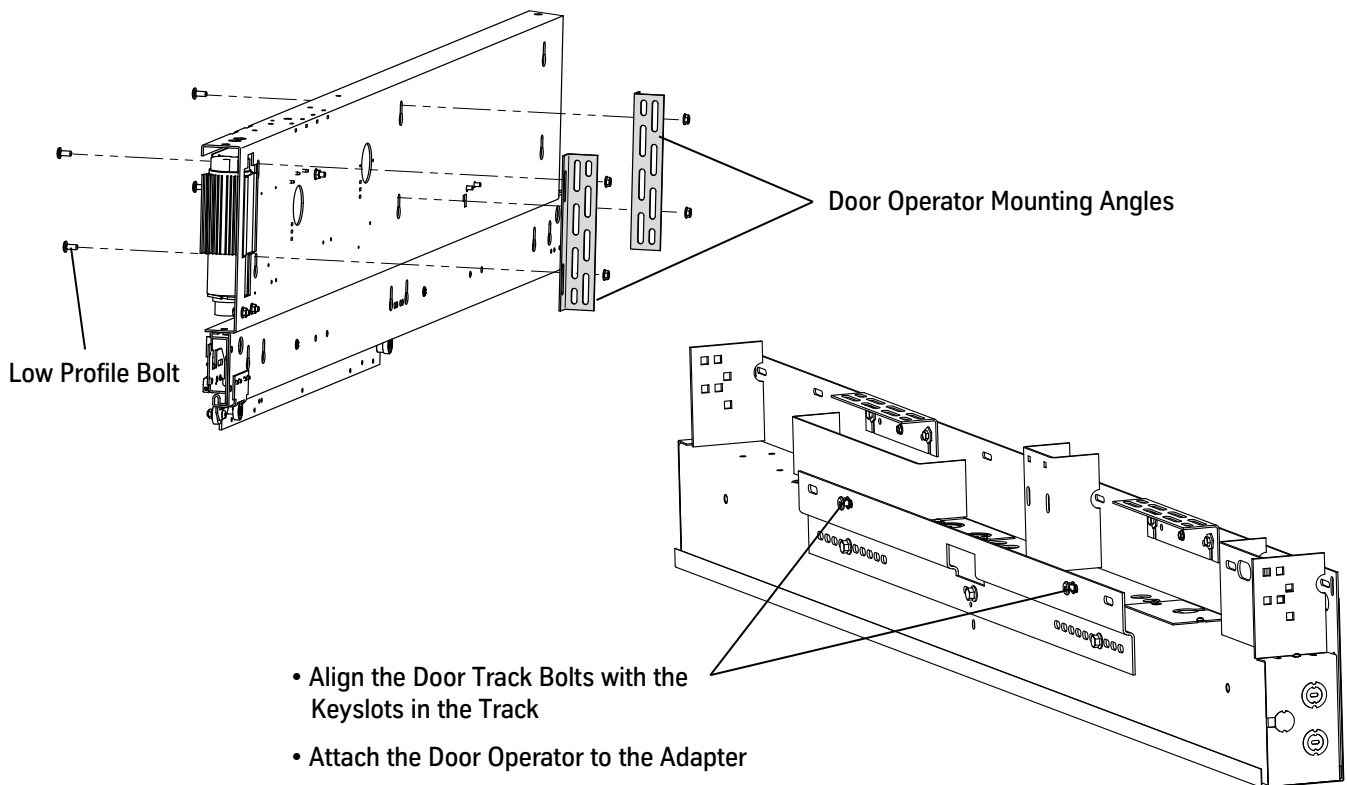
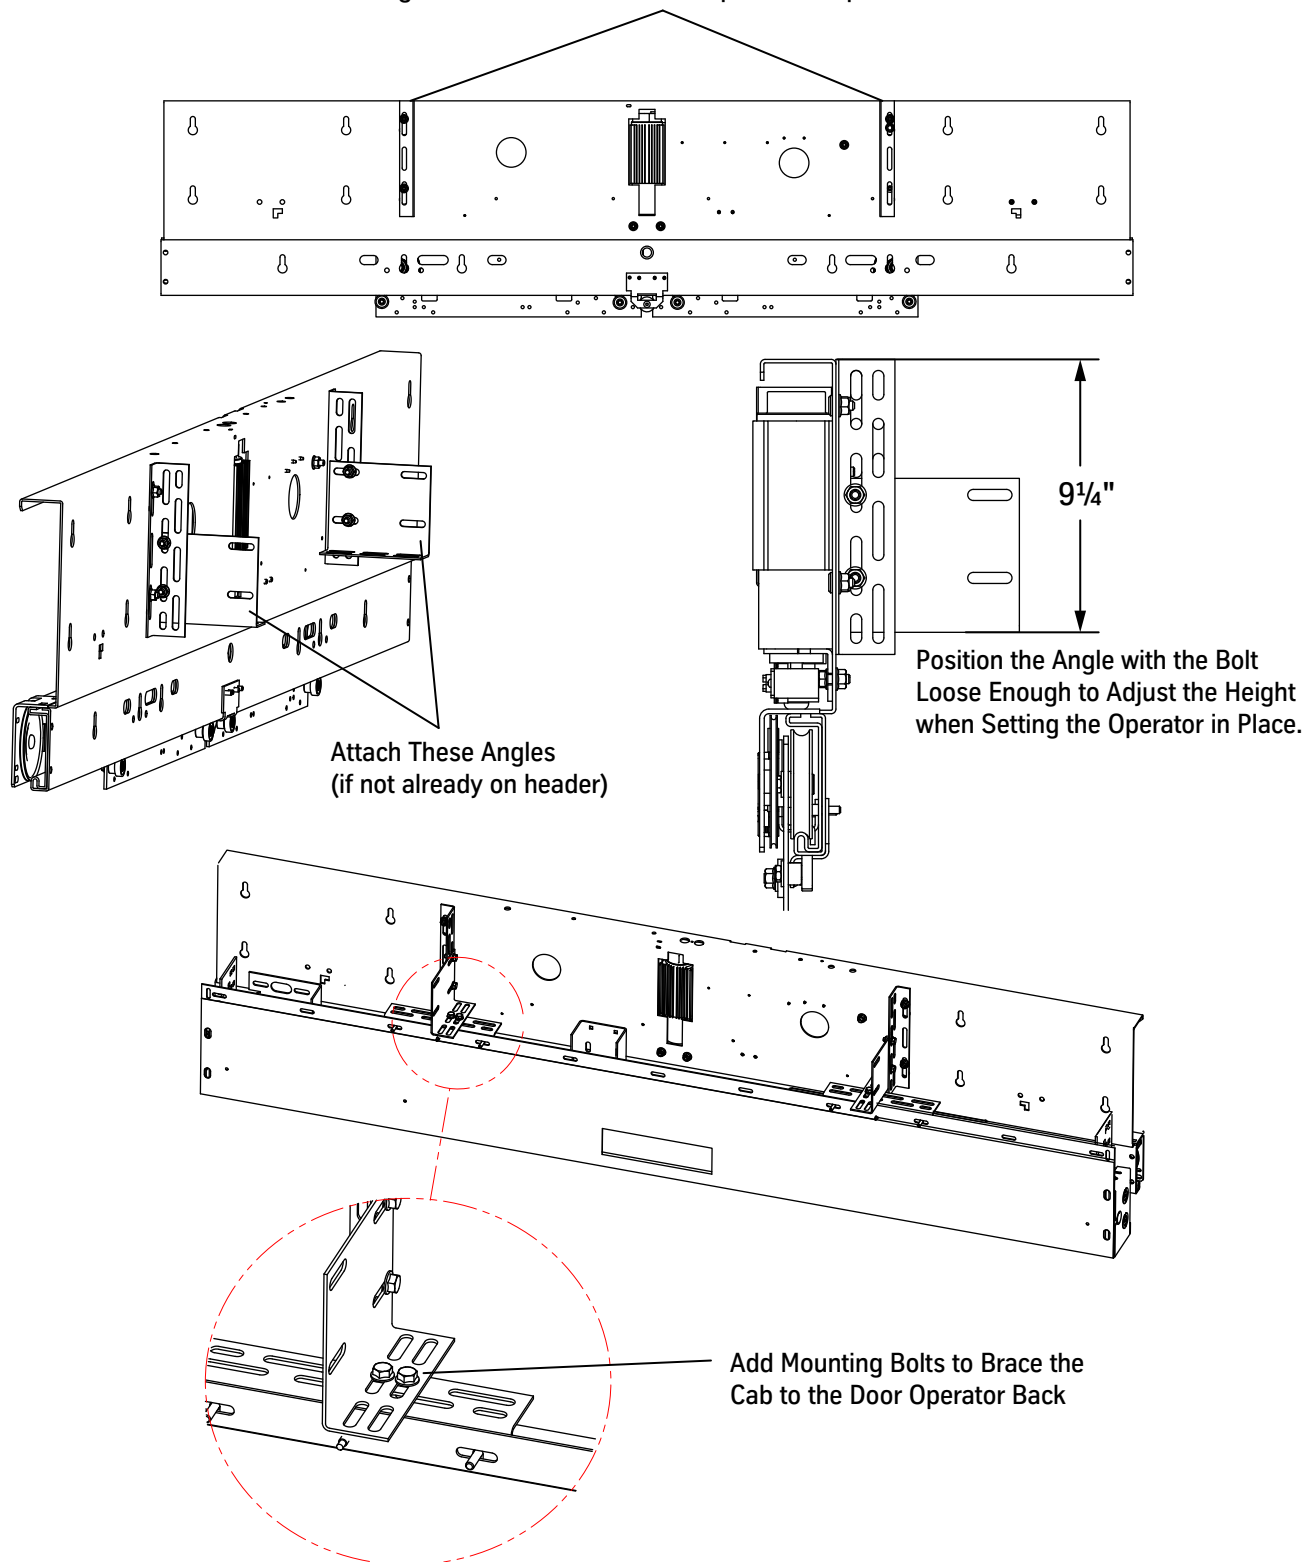

Figure 21 - Door Operator Machine Installation (1 of 2)
Figure 22 - Door Operator Machine Installation (2 of 2)
9. Install the door operator to the adapter angle. See Figure 21 below and Figure 22 on page 30.